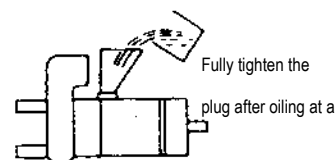

Fig. 7
a) For 3-phase, grounding shall be done using Green cord (Label E) Or Green and Yellow stripe cord (Label PE) or the Green cord (Label E) among the four lines, as shown in Fig. 7. Never connect the Green and Yellow stripe cord or the Green cord to the power source. The grinding shall be surely conducted conforming to the Technology Standard of Electric Facilities.
Replace oil in the mechanical seal chamber at every six months. If water enters the oil to give significant cloudiness, replace the mechanical seal. As illustrated in Fig. 7 oiling shall be done at a specified quantity while the oiling plug faces upright and the pump is positioned horizontally. After the oiling, fully tighten the plug with a seal washer.